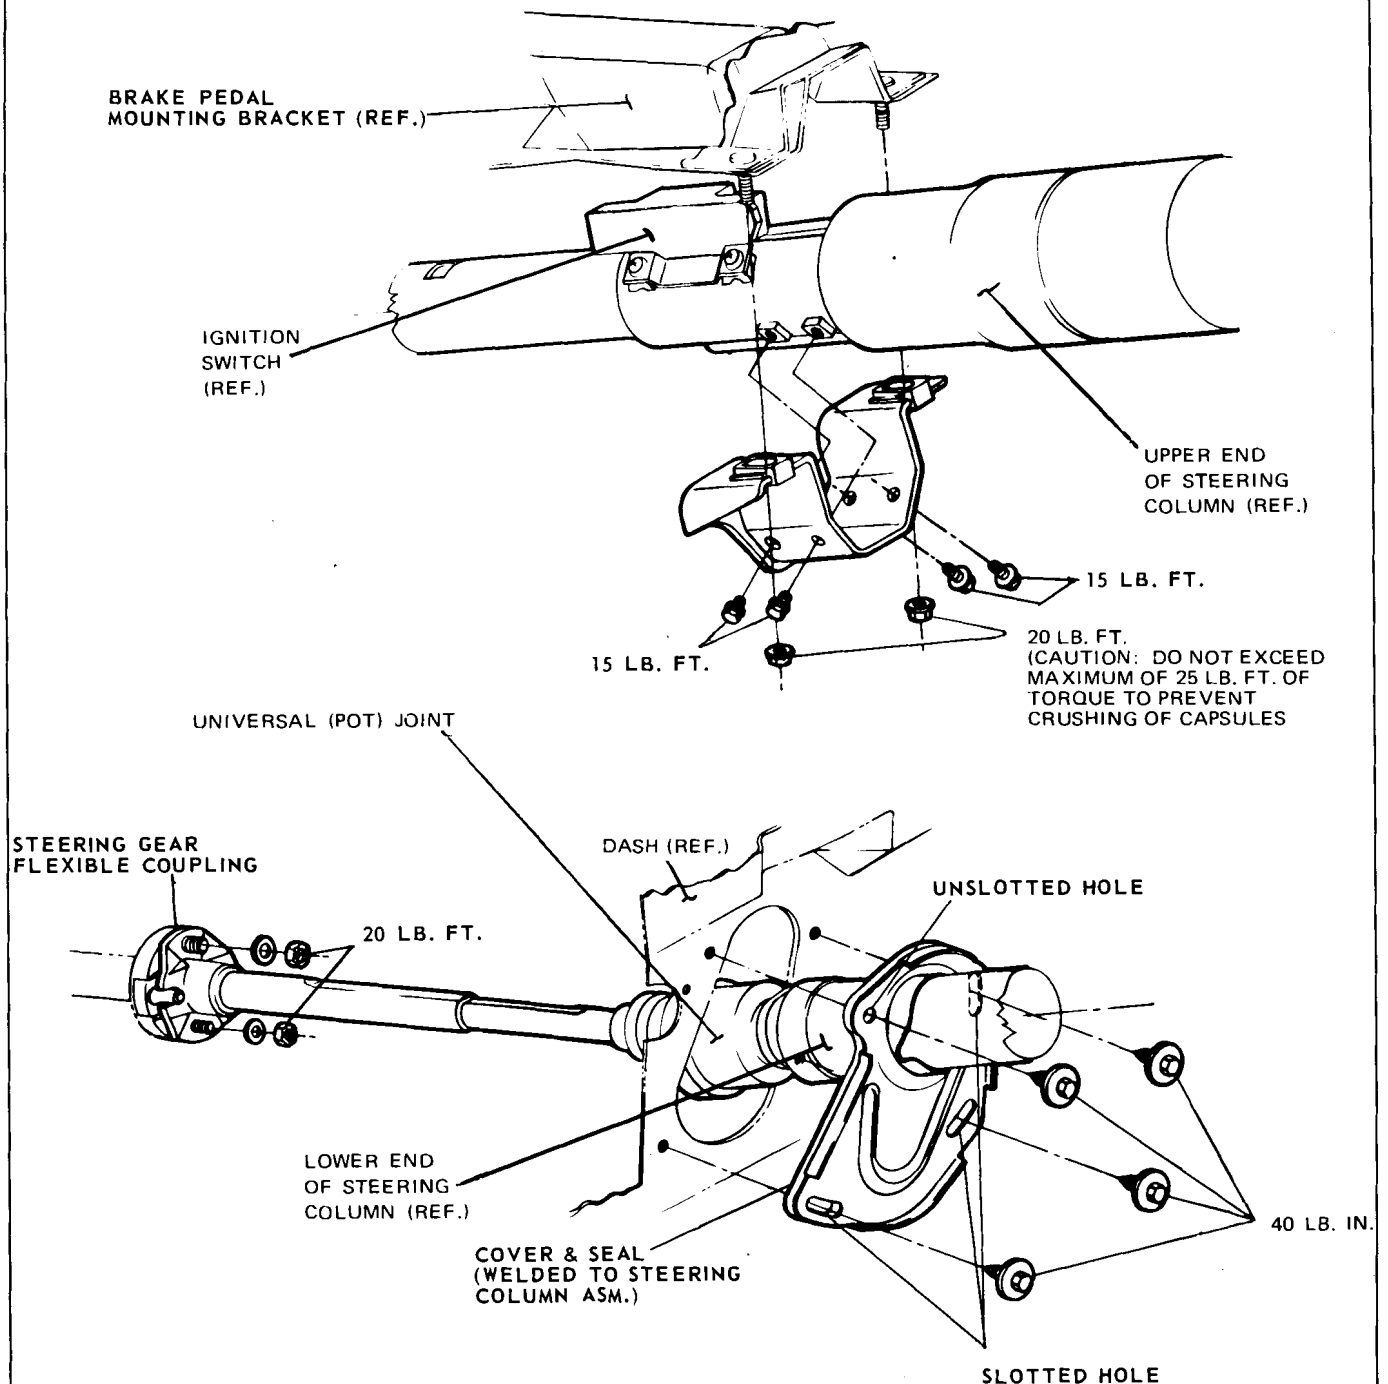

Fig. 9-34 Installation of Steering Column (F Series)
1. Position steering column in car and attach steering shaft flange to steering gear flexible coupling and tighten coupling nuts to 20 lb. ft. torque (Fig. 9-34).